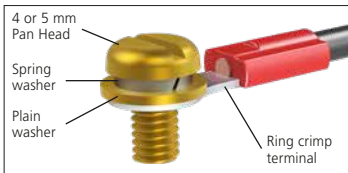

Fig. 5.5.1.
**⚠ WARNING:** To ensure secure electrical connections, it is important that the requisite washers are used as shown in figure 5.5.1. Failure to do so may result in connections working loose or screws not clamping down on ring crimp terminals. Spring washers must be compressed. Screw tightening torques must not exceed 1.5 Nm (1.1 lbf.ft).